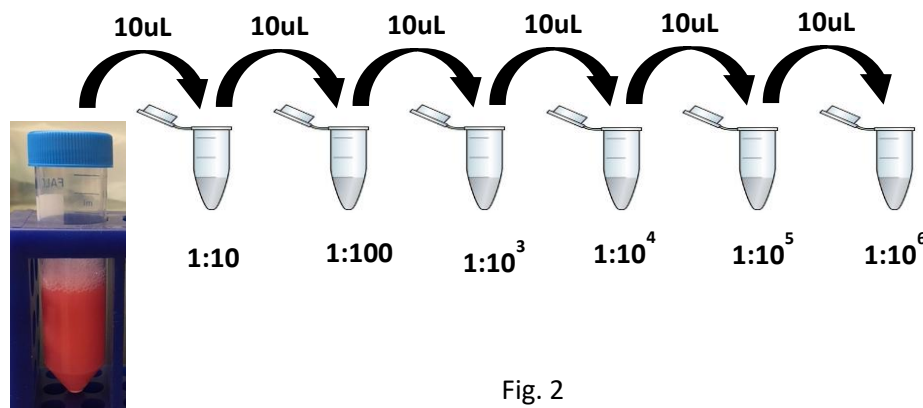

Fig. 2
55. Take 10uL of your harvested culture and add it to the 90uL of LB/Amp in your tube labeled 1:10. Cap the tube and mix by inverting 3-4 times. This is a 10-fold dilution of your harvested culture. (See Fig. 2)